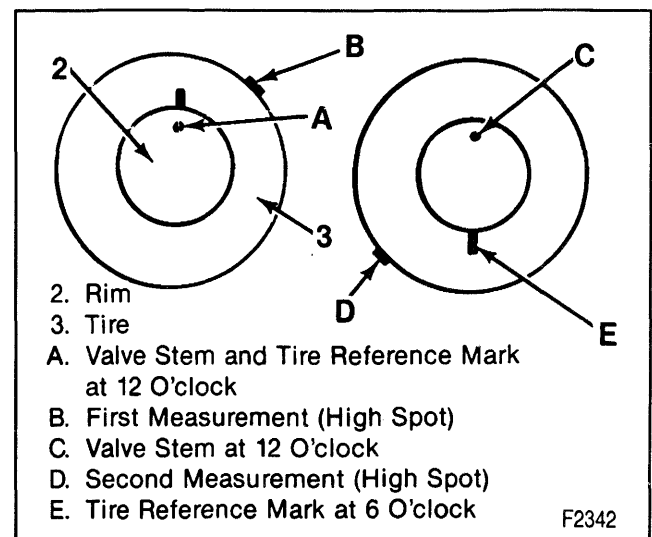

Figure 12—Tire to Wheel Vectoring—Excessive Tire Runout
5. Break the tire and wheel assembly down on a tire mounting machine and rotate the tire 6 hours (180 degrees) on the rim (figure 12).
7. If the clock position of the high spot is 6 hours from the original high spot, the tire is the major contributor to the runout problem (figure 12).